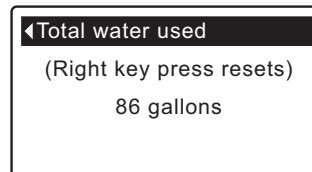

FIG. 61
6. The **Total water used** screen (See Figure 61) shows the volume of water used since it was last reset (it works like the trip odometer in a car). To reset the value to 0, press the RIGHT (►) button while this screen is displayed.